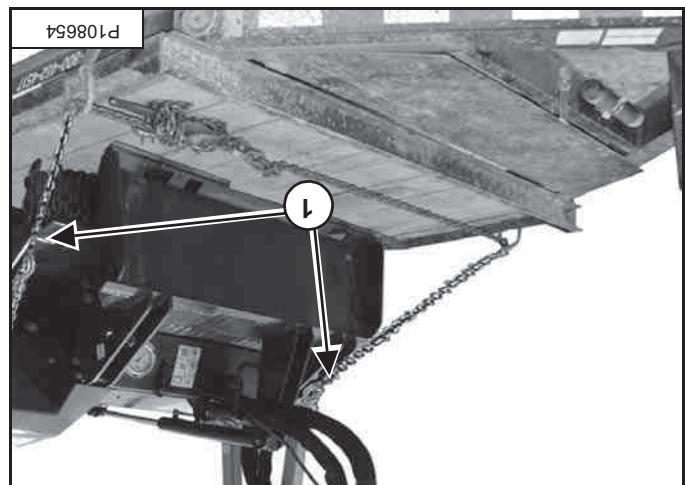
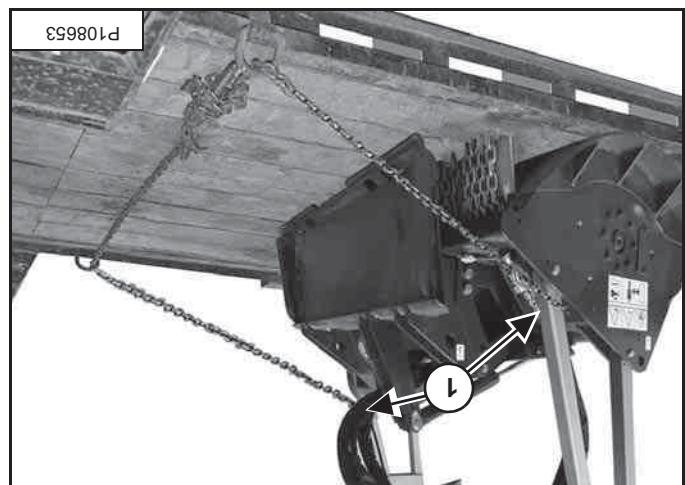

Figure 103
Figure 102
Fasten the chains to the forestry cutter (item 1) [Figure 102] and (item 1) [Figure 103] and fasten each end if the chain to the transport vehicle.